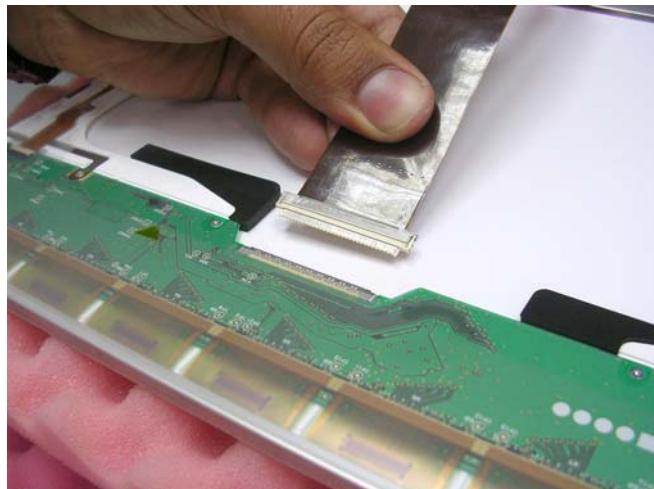

Figure 8-51 Connecting the Flex Cable to the LCD Rear Panel
- 2) Connect the new flex cable to LCD rear panel connector, as shown in Figure 8-51.